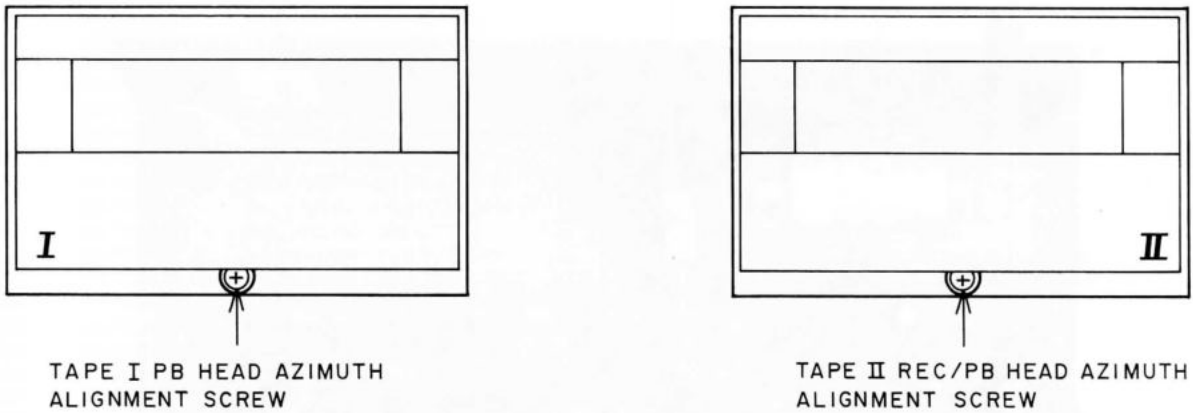

Fig. 4-1
- 3) Adjust Head azimuth alignment screw (Refer to Fig. 4-1) so that the reading on the AC milli-voltmeter of both Left and Right channels are maximum.